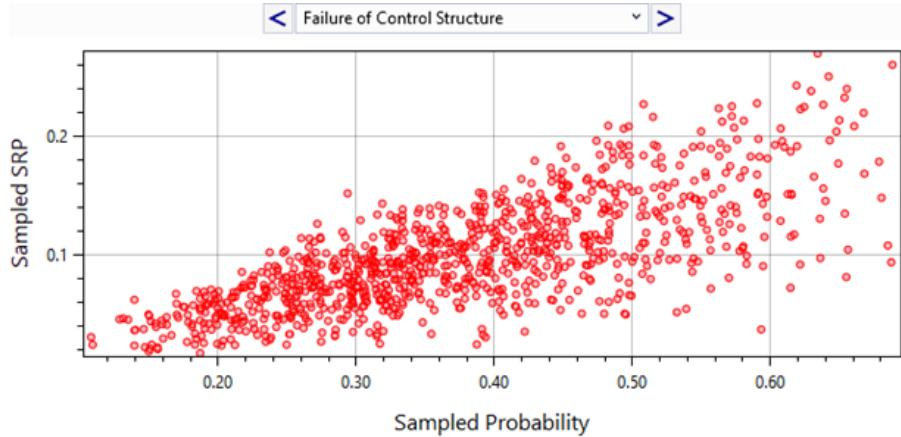

Figure 8.14: Event tree diagnostics tree node probability to SRP scatter plot.
- **Node SRP Scatter:** Plots the sampled probabilities of a node against the overall SRP for each Monte Carlo iteration. Nodes with strong correlations to the SRP show clear trends in this scatter plot (Figure 8.14).